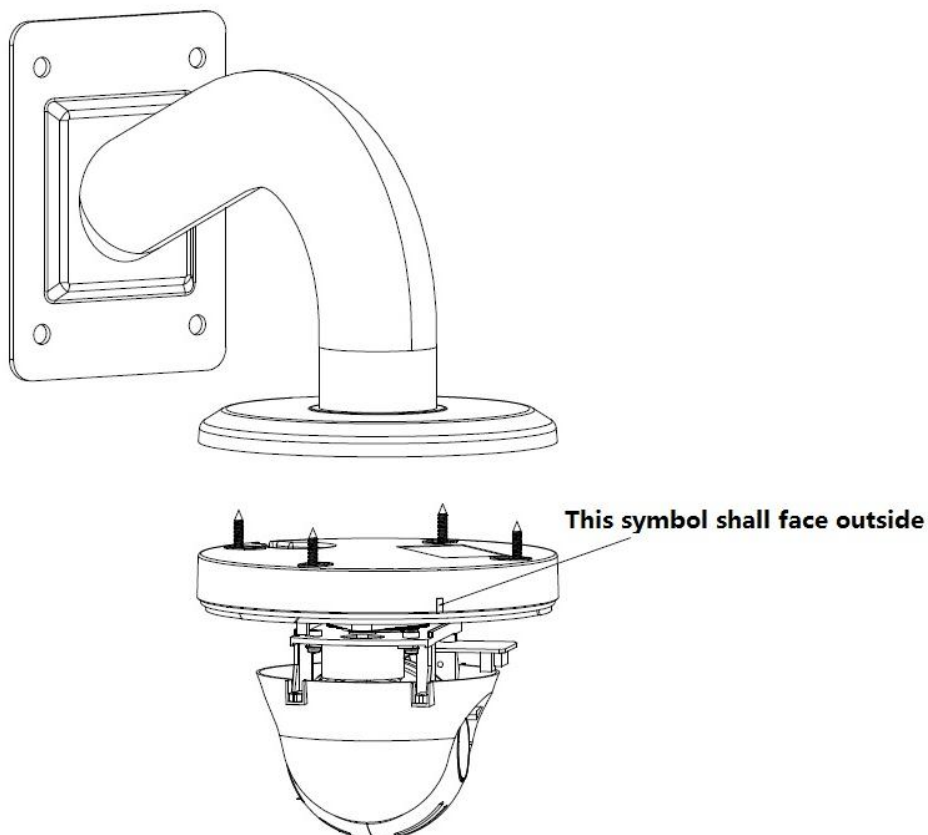

Figure 4-3
2). Connect the adapter block to the internal thread of the wall mount bracket. Pull the intelligent speed dome composite cable through the adapter block and end of the column of the wall-mount bracket and pull it out of the other end of the wall mount bracket. Line up the pedestal to the internal hole of the adapter block. Insert four screws and rubber washer. See Figure 4-3. Please make sure the cable exit is at the rear end of the wall mount bracket (or the arrow is at the front of the bracket). **Please note this step is very important. Please make sure the screws are firm, otherwise, it may result in falling risk of the intelligent speed dome.**